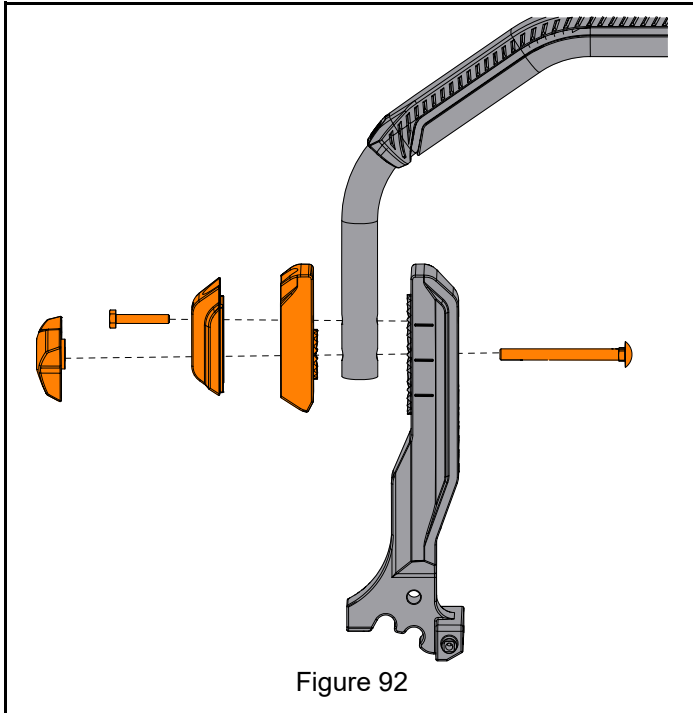

Figure 92
1. Secure upper control arm to lower control arm using hardware removed earlier. See Figure 92.